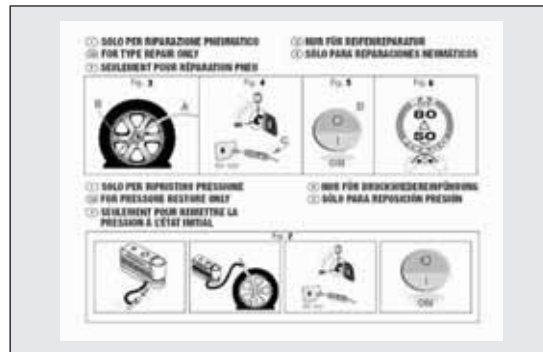

fig. 128
- ☐ instruction booklet (see fig. 128), to be used for prompt and proper use of the quick repair kit and to be then handed to the personnel charged with handling the treated tyre;